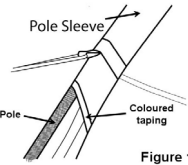

Figure 1
4. Taking the assembled curved roof poles in turn, gently PUSH them through the pole sleeves in the flysheet that have the same colour taping as the colour coding on these roof poles. Where possible avoid standing on the flysheet, as this will damage it. (See figure 1).
7. Taking these assembled fibreglass poles in turn, gently PUSH them through the pole sleeves in the flysheet with the same colour taping as the mid section of the pole. (See figure 1)